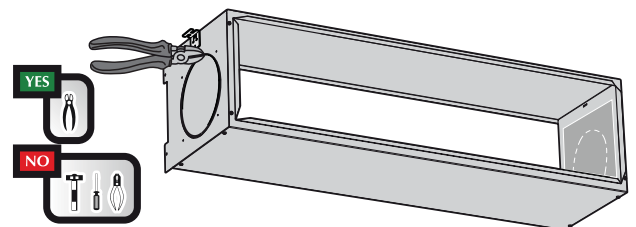

fig.13
- Use a cutting tool to cut the internal insulation from the outside along the circumference and remove it (fig.13)